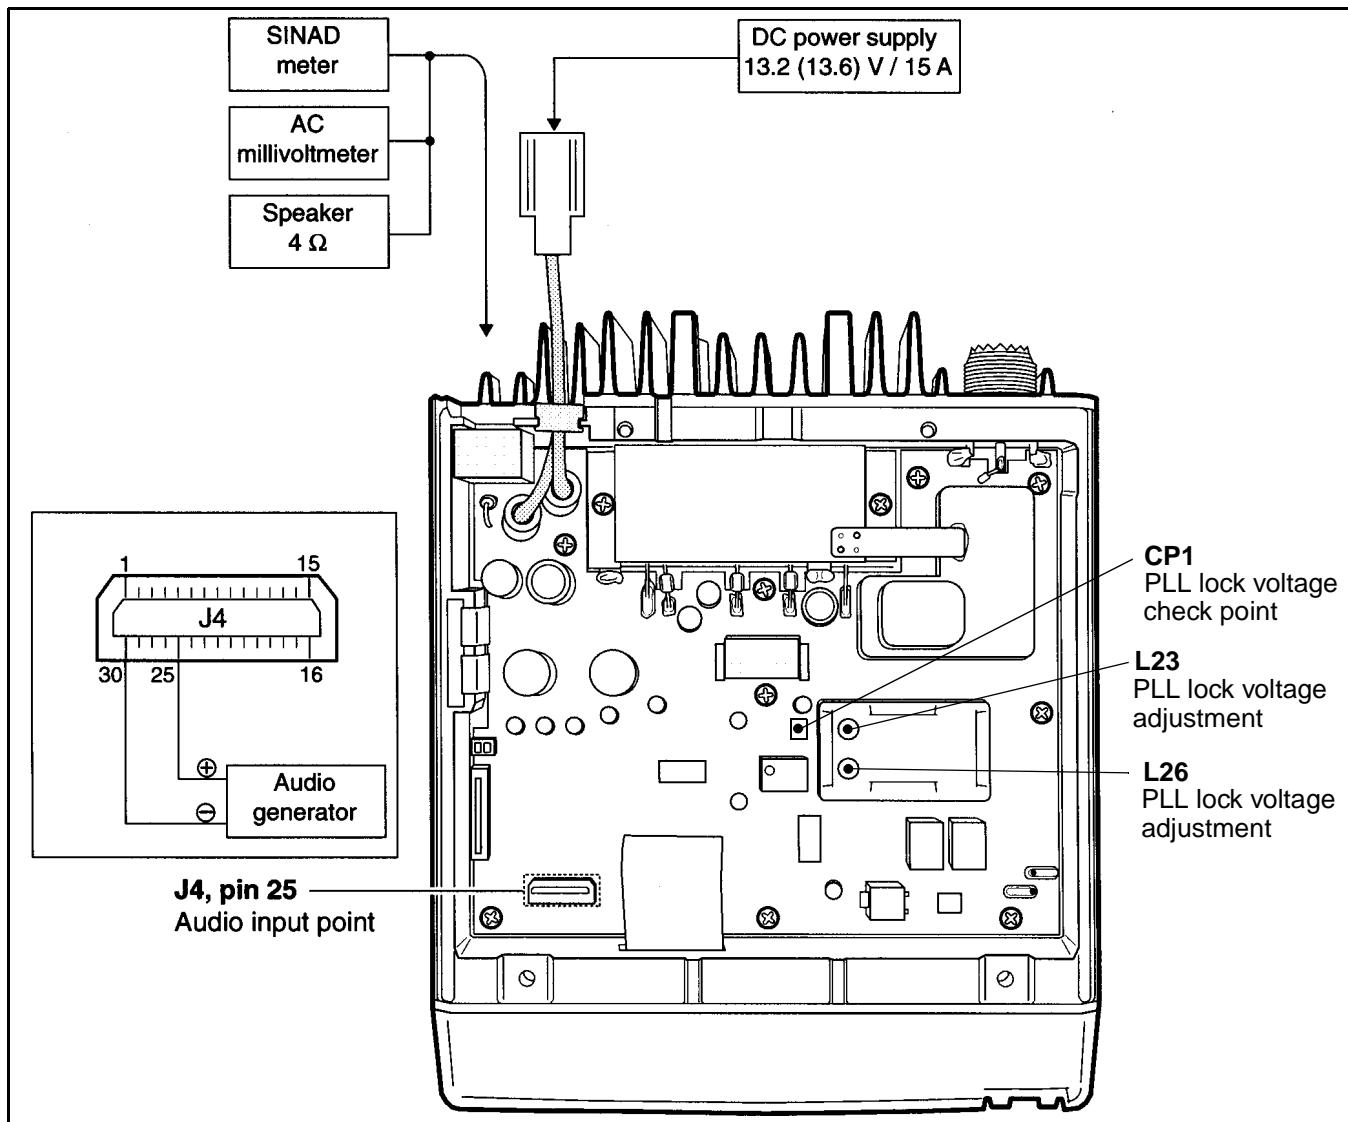

Figure 6-6 UHF Adjustment Points
1. Remove the bottom cover by removing four screws. Connect a DC voltmeter to check point CP1 shown in Figure 6-6.
- a. Connect a SINAD meter with a 4-ohm load to the external speaker jack (see Figure 6-6).